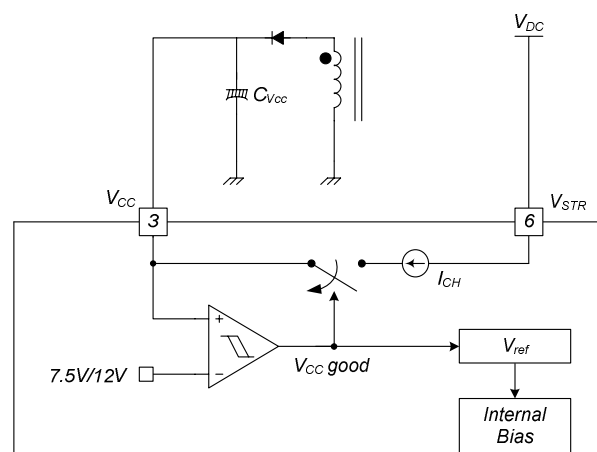

Figure 17. Startup Block
1. Startup: At startup, an internal high-voltage current source supplies the internal bias and charges the external capacitor (C_{VCC}) connected to the V_{CC} pin, as illustrated in Figure 17. When V_{CC} reaches 12V, the FSGM0765R begins switching and the internal high-voltage current source is disabled. The FSGM0765R continues normal switching operation and the power is supplied from the auxiliary transformer winding unless V_{CC} goes below the stop voltage of 7.5V.